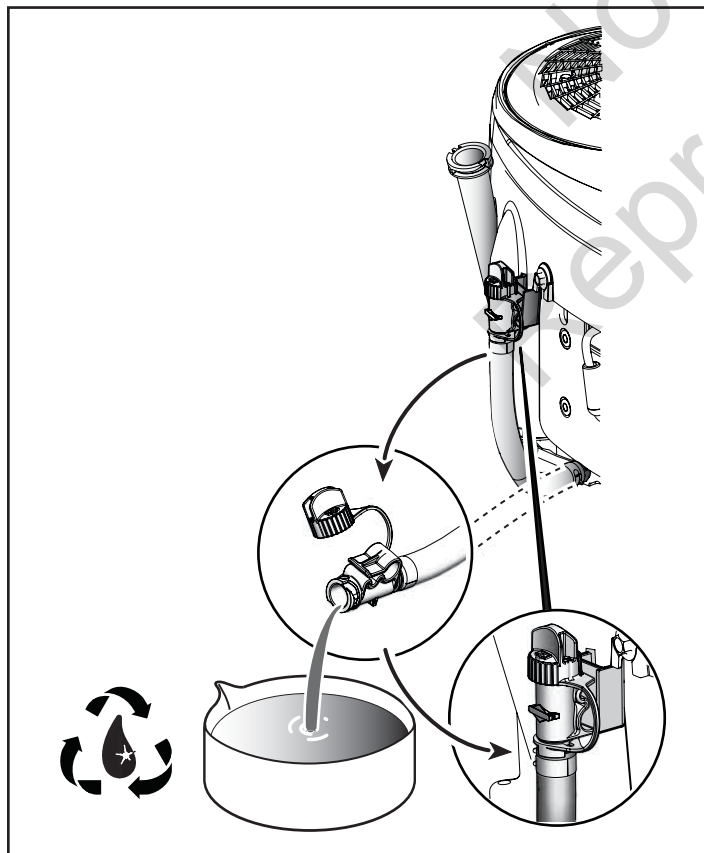

Figure 9
5. Disconnect the oil drain hose (see Figure 9). Carefully remove cap and lower hose into an approved container. After the oil has drained, install cap tightly, then attach the hose to the side of the engine.